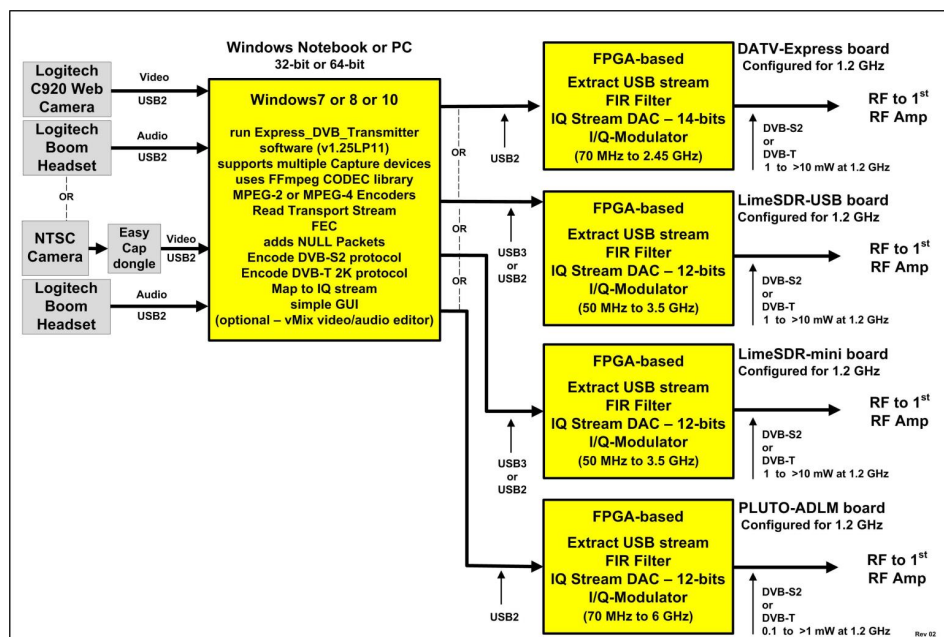

Figure 1 - Block Diagram of v1.25LP11 Express_DVB_Transmitter software with possibilities for running any of four transmitter boards
This User Guide covers using the Express_DVB_Transmitter software to drive the DATV-Express Board transmitter in both 32-bit or 64-bit Windows environment on Intel-based desktop and notebook computers, as shown in **Figure 1** and **Figure 2**. For preparing the DVB-S protocol, the Windows PC captures the video/audio input stream, uses software-based CODECs for encoding, prepares the Transport Stream (TS) and handles the GUI interface. The hardware board FPGA does most of the hard work for processing the DVB-S protocol, adding the Forward Error Correction (FEC) calculations. The DATV-Express hardware board also shapes the IQ data streams and modulates using an Analog Devices model ADRF6755 IQ-modulator chip.
When running the DVB-S2 protocol, the FPGA on the DATV-Express board is too small to encode the DVB-S2 protocol. The same FPGA restriction is true for the DVB-T protocol. Therefore both the DVB-S2 and DVB-T protocols need to be encoded on the Windows computer (as shown in **Figure 2**). All protocols need to be encoded on the Windows computer for both LimeSDR and PLUTO hardware boards as shown in **Figure 1**.
The Express_DVB_Transmitter software requires a Windows desktop/notebook and the hardware modulator board to perform all of the DVB-S processing. Since the Express_DVB_Transmitter software now supports other modulator boards (see **Figure 1**), different drivers need to be installed for each different type of hardware modulator board. The Windows PC will capture the video and audio and then send the processed Transport Stream (TS) datastream to the hardware modulator board via USB2 connection. The FPGA on the hardware board does all the DVB-S protocol encoding. See **Figure 1** (earlier page) for a block diagram of a typical DATV-Express transmitter set-up for the DVB-S protocol (shown configured to transmit on 1.2 GHz).